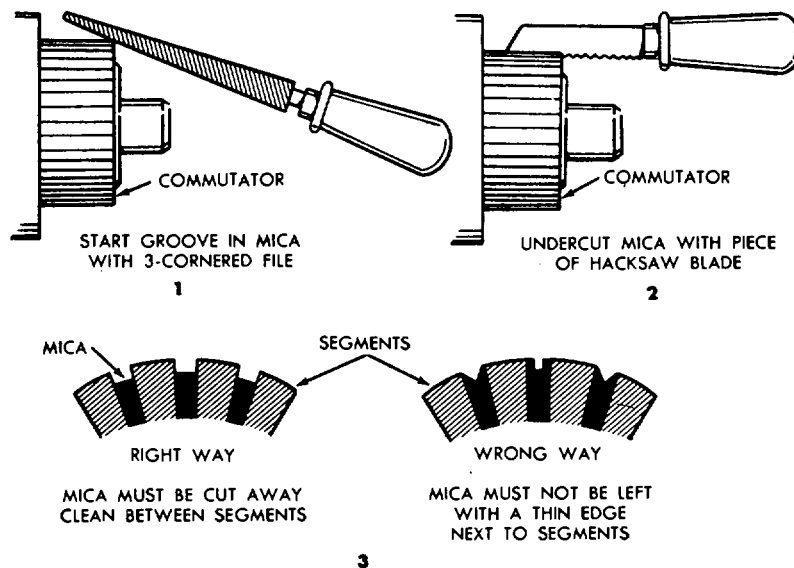

Figure 79. Correct method of undercutting mica.
- (1) *General.* Clean and inspect all parts, and replace any defective parts.
- (2) *Armature.* Do not clean the armature by any degreasing method, since this would damage the insulation and ruin the armature. Wipe with a clean cloth slightly dampened with carbon tetrachloride or similar solvent. If the commutator is rough, out-of-round, worn, has high mica, filled slots, or is burned, turn down the commutator in a lathe, and undercut the mica. Use a mica undercutter (par. 179) for this purpose, if available, or use a hacksaw blade as shown in figure 79. Follow the numerical sequence (1), (2), and (3) in figure 79.